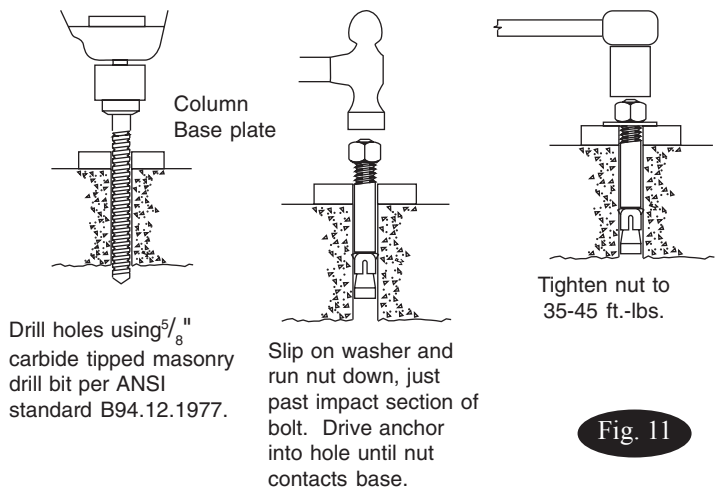
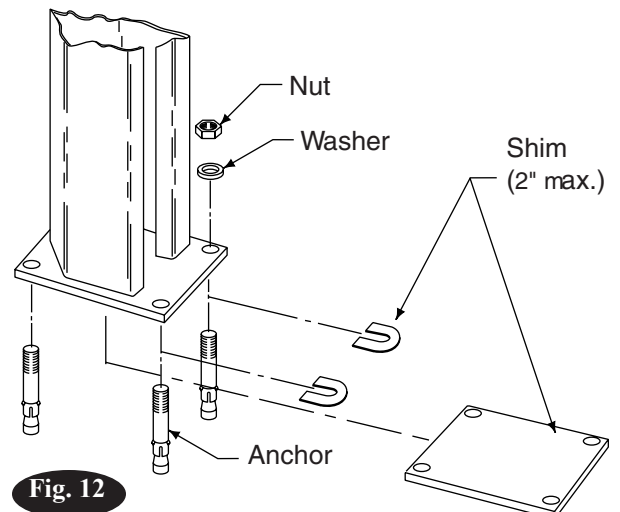

Fig. 11
Fig. 12
- Use shims provided to shim column base to plumb columns, first fore and aft then side to side. Use a 4' level to check plumb of columns. Recheck  $\frac{5}{16}$ " gap between column and yoke with yoke spacer tool. Maximum shim thickness is 2", Fig. 12. If more shimming is required, consult factory for different shim package including longer anchor bolts. Drill four  $\frac{5}{8}$ " diameter holes through concrete floor using base holes as guide, Fig. 11. Repeat for other columns.
- Insert base anchors, Fig. 11. Repeat for other columns. Tighten nuts. Recheck columns for plumb. Re-shim if necessary. Torque anchor bolts to 35-45 ft. lbs., Fig. 11. If anchor bolts do not hold when torqued to required amount, concrete must be replaced. Saw cut and remove 24" x 24"